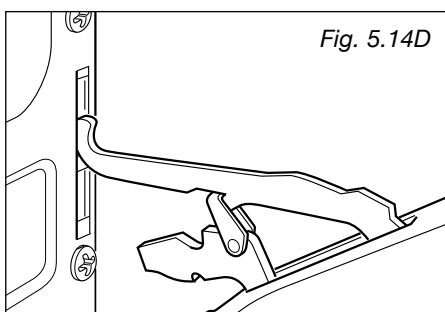

Fig. 5.14D
- Withdraw the upper hinge pins from their location (fig. 5.14D).